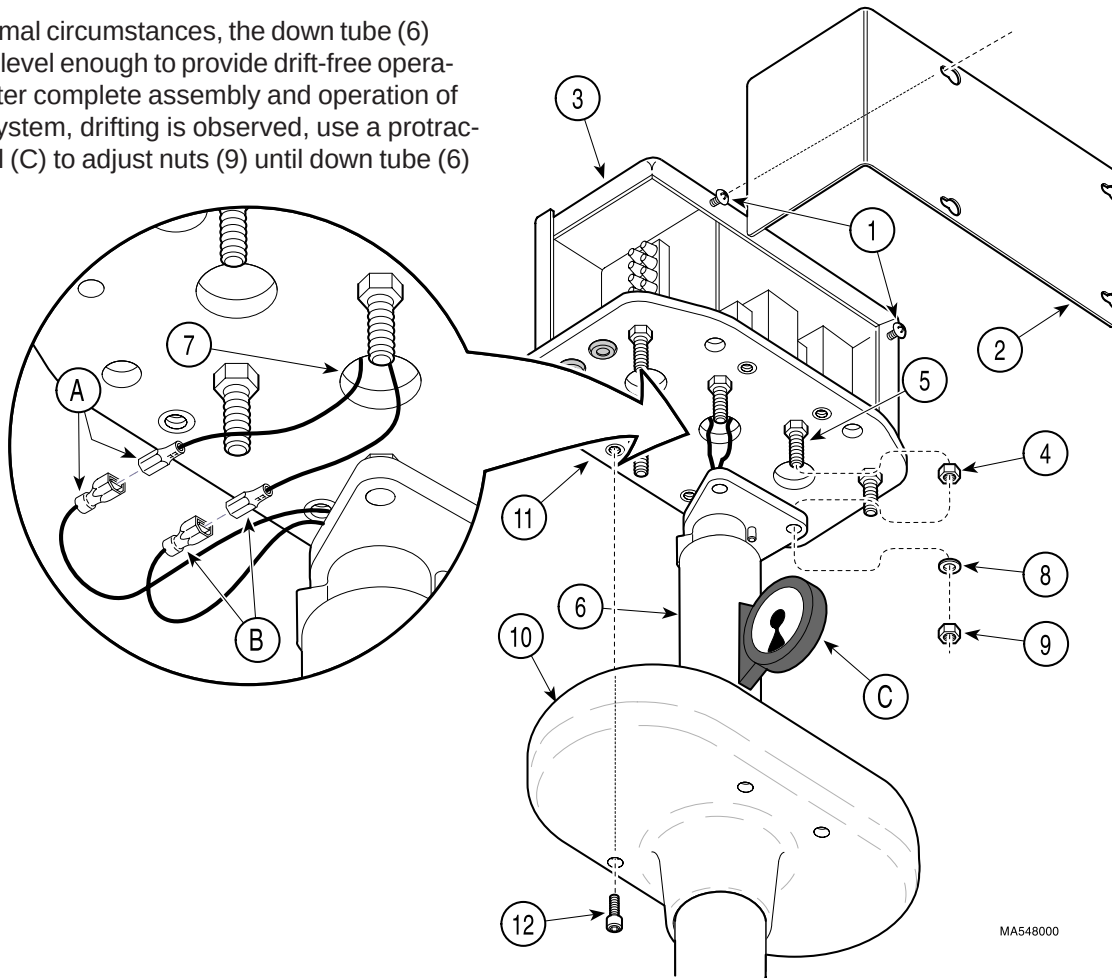

Figure 7. Down Tube Installation
2. Loosen four screws (1, Figure 7); then pull outward on box cover (2) and remove from junction box (3).
12. Feed brown and blue transformer output wires out of wire hole (7, Figure 7) in bottom of junction box.
13. Position box cover (2) on junction box (3) and secure by tightening four screws (1).
1. Thread three 3/8" x 16 hex nuts (4, Figure 7) (supplied) onto three bolts (5) until they are hand-tight; then back off each nut 1 full turn.
2. Position down tube (6) near wire hole (7).
3. Connect brown wire (A) from junction box (3) to brown wire (A) from down tube (6).
4. Connect blue wire (B) from junction box (3) to blue wire (B) from down tube (6).
5. Install down tube (6) on three bolts (5) and secure with three 3/8" lockwashers (8) and 3/8" x 16 hex nuts (9) (supplied).